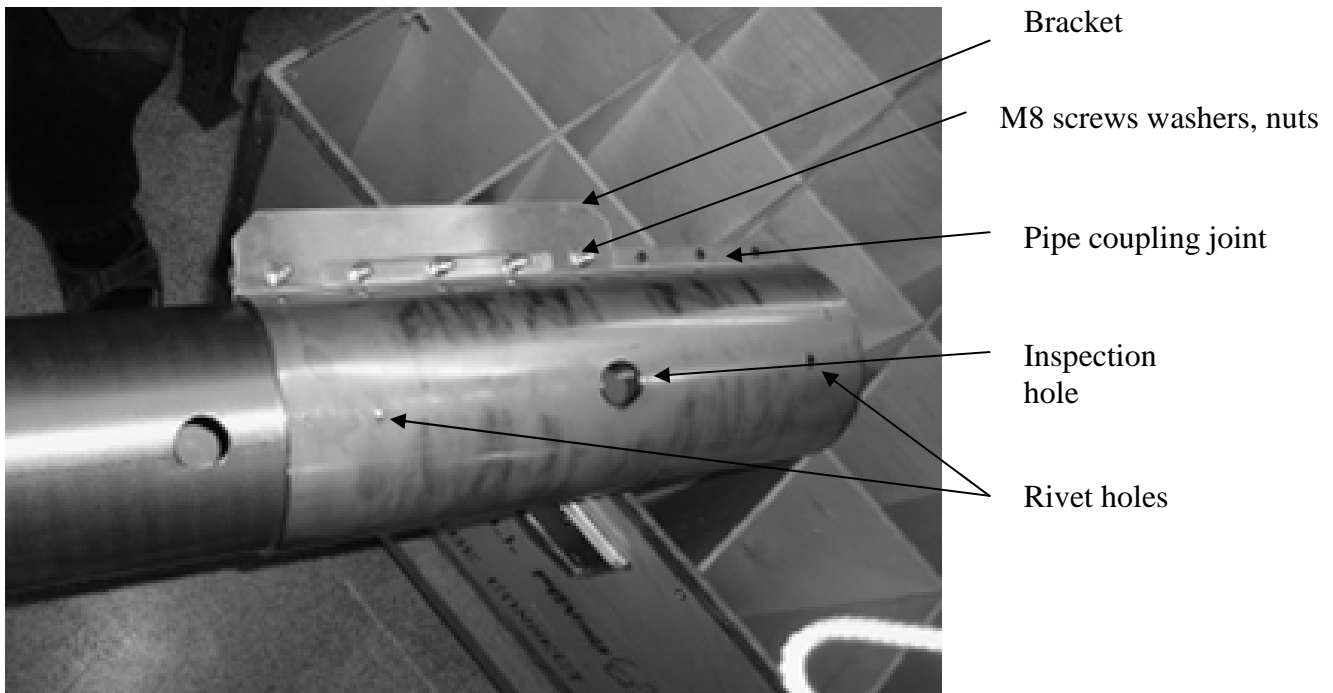

Figure 2
3. Mount the pipe coupling with the joint aligned to the centre line on the pipe and tighten it slightly on the bottom pipe. Mount the pipe bracket on one bar (outside) on the pipe coupling using two of the M8 screws and nuts. See fig 2